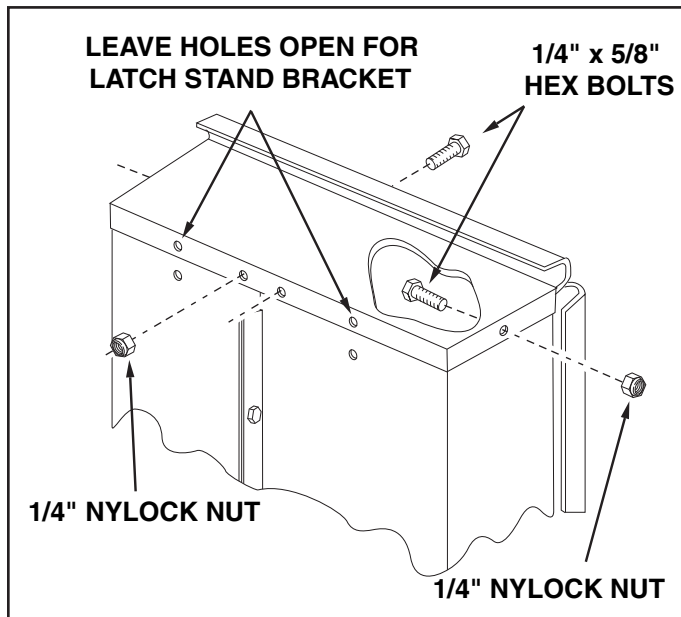

FIGURE 5
9. Assemble the front panel over the end of the cart using four 1/4" x 5/8" hex bolts and 1/4" nylock nuts as shown in figure 5. Leave two holes open in the bottom of the panel as shown in figure 5. With the cart body halves pulled together, **tighten** the two bolts in the bottom of the front panel, then **tighten** the bolt in each side.